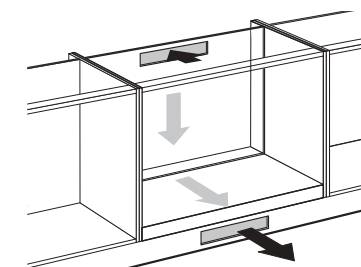

Fig. 8: Ventilation openings
- Saw out the ventilation openings (min. 100 cm²). Ventilation takes place via plinth and rear of cupboard (see figure 8).